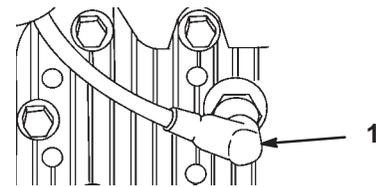

Figure 29
2. Disconnect the wire from the spark plug (Fig. 29).
2. Remove the spark plug (Fig. 29).
3. Remove the spark plug (Fig. 29) and spin the engine rapidly using the starter to remove the excess oil from the cylinder.